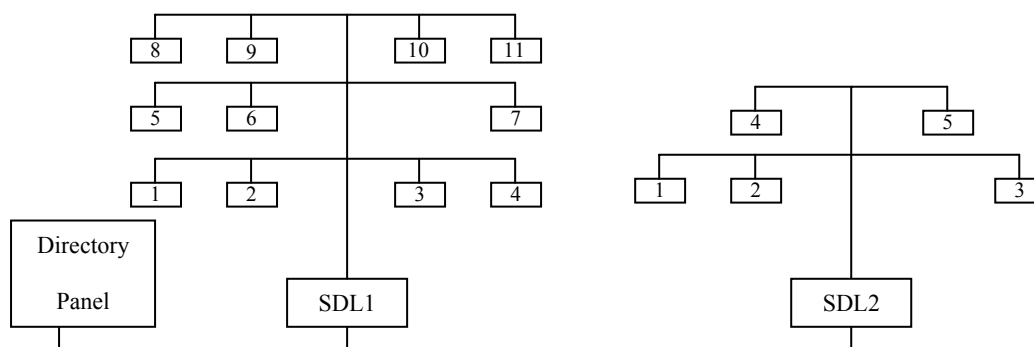

Figure 1
- In addition to the option 'Manual: 4' inside the 'Add: 1' menu, there are the 'Auto: 5', 'Rx: 6' and 'Tx: 7' options. The functioning of the 'Auto: 5' option is explained bellow through an easy example. To get more details of the modes 'Rx: 6' and 'Tx: 7' refer to the manual of the **Directory v2.0** application that comes with the auta CD soft. Coming back to the 'Auto: 5' example, imagine we want to automatically generate all the registers for each flat in the installation of the Figure 1.